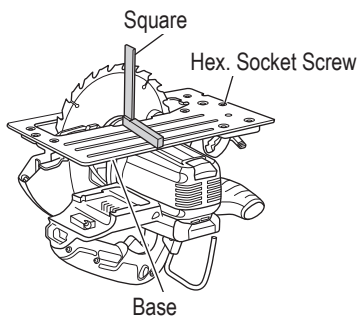

Fig. 35
6. Adjusting the base and saw blade to maintain perpendicularity (Fig. 35)
- (1) Turn the base face up (Fig. 35) and loosen the incline lever.
- (2) Apply a square to the base and the saw blade and, turning the Hex. socket screw with a 3 mm Hex. bar wrench, shift the position of the base to produce the desired right angle.